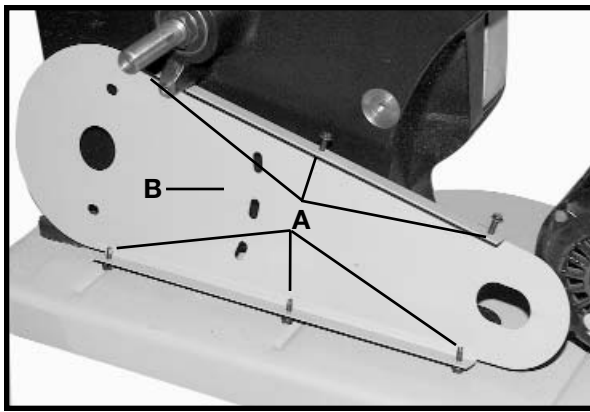

Fig. 9
1. Thread the six #10-32 x 5/8" self-tapping screws (A) Fig. 9 about halfway into the six holes provided in the ledge of the inside belt and pulley guard (B).